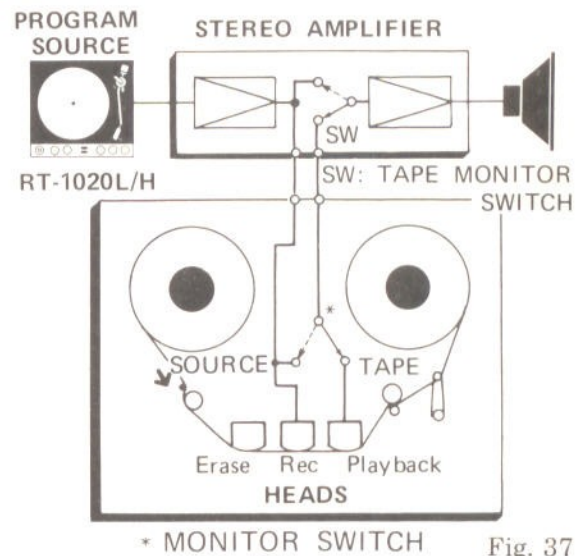

Fig. 37
**Monitoring of a Recording in Progress (Fig. 37)**